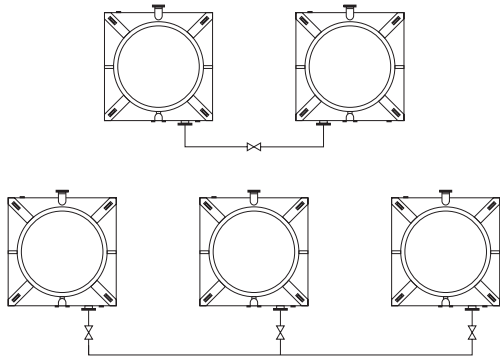

Figure A-42: Equalizer Line Installation
- Install an equalizer line between towers, to maintain the same water level at the basins (see Figure A-42). Table A-2 shows the recommended sizes for the Equalizer connections.